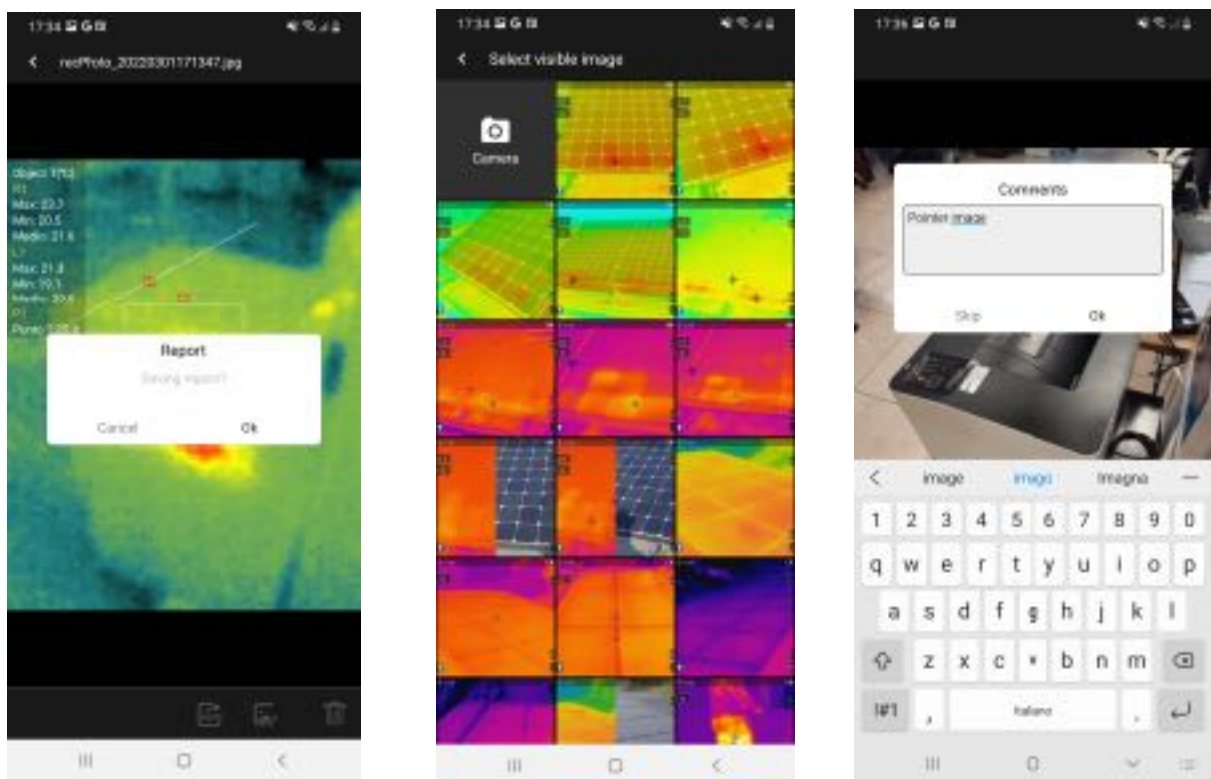

Fig. 12: Creation of PDF report
2. Tap the  icon to create the PDF report associated with the selected image. The screen of Fig. 12 – left side is shown on display. Confirm with "OK" to start the operation
3. Select a visible image from those available within the mobile device, or take an instant snapshot of the framed object (see Fig. 12 – central part)